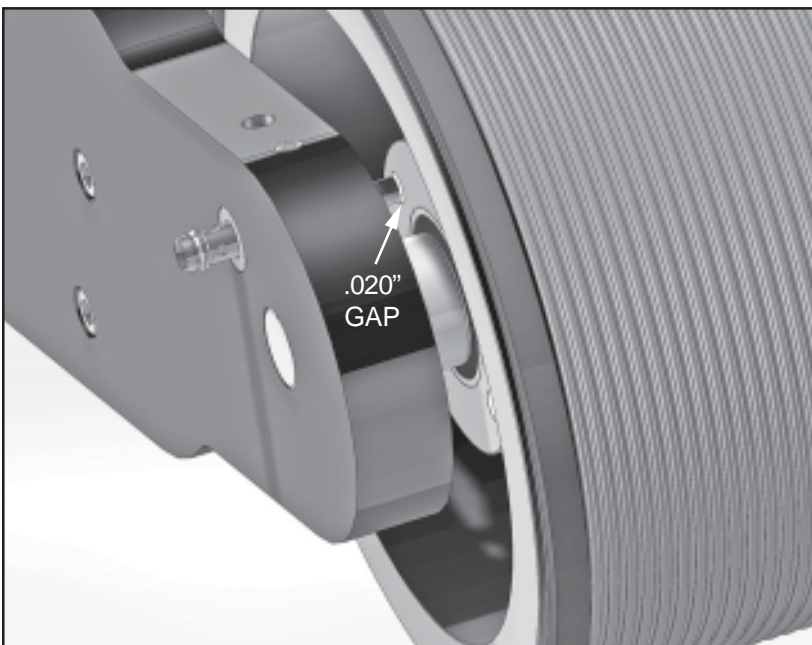

FIGURE 35
3 – Adjusting the Inductive Proximity Sensor: This sensor has a very short distance sensing range and must be adjusted precisely for proper operation. The easiest way to begin the adjustment procedure is to use a 0.020" shim positioned between the face of the sensor and the hub of the print drum as shown in Figure 35. While holding the shim between these two surfaces, turn the sensor Clockwise (CW) until the face of the sensor just pushes the shim into contact with the hub of the print drum. When the sensor is in this position, just slightly tighten the nylon tip set screw to prevent the sensor body from turning.